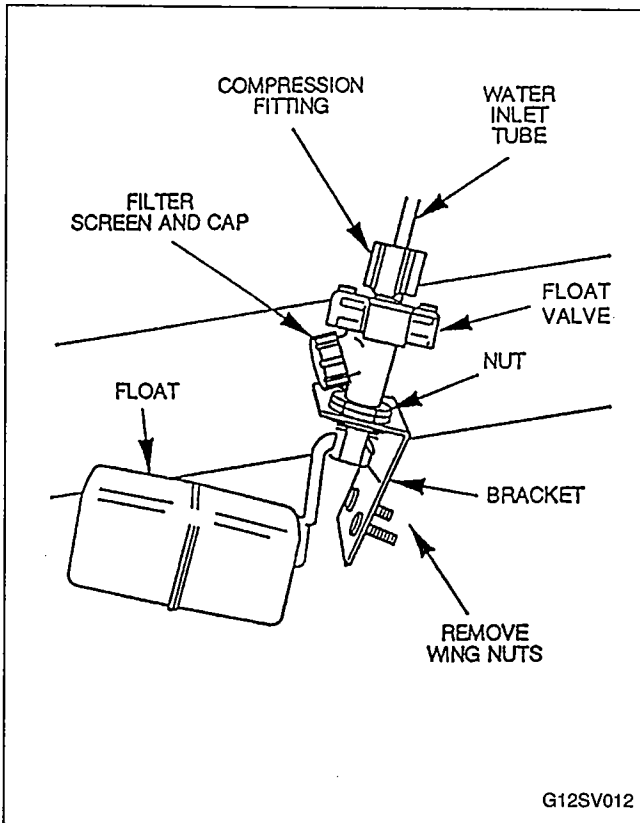

FIGURE 10. FLOAT VALVE REMOVAL
REMOVE FLOAT VALVE (Figure 10)
1. Turn on water to ice machine at water service valve and verify float valve is open, Figure 10.
6. Shut off water at float valve. See Figure 10.